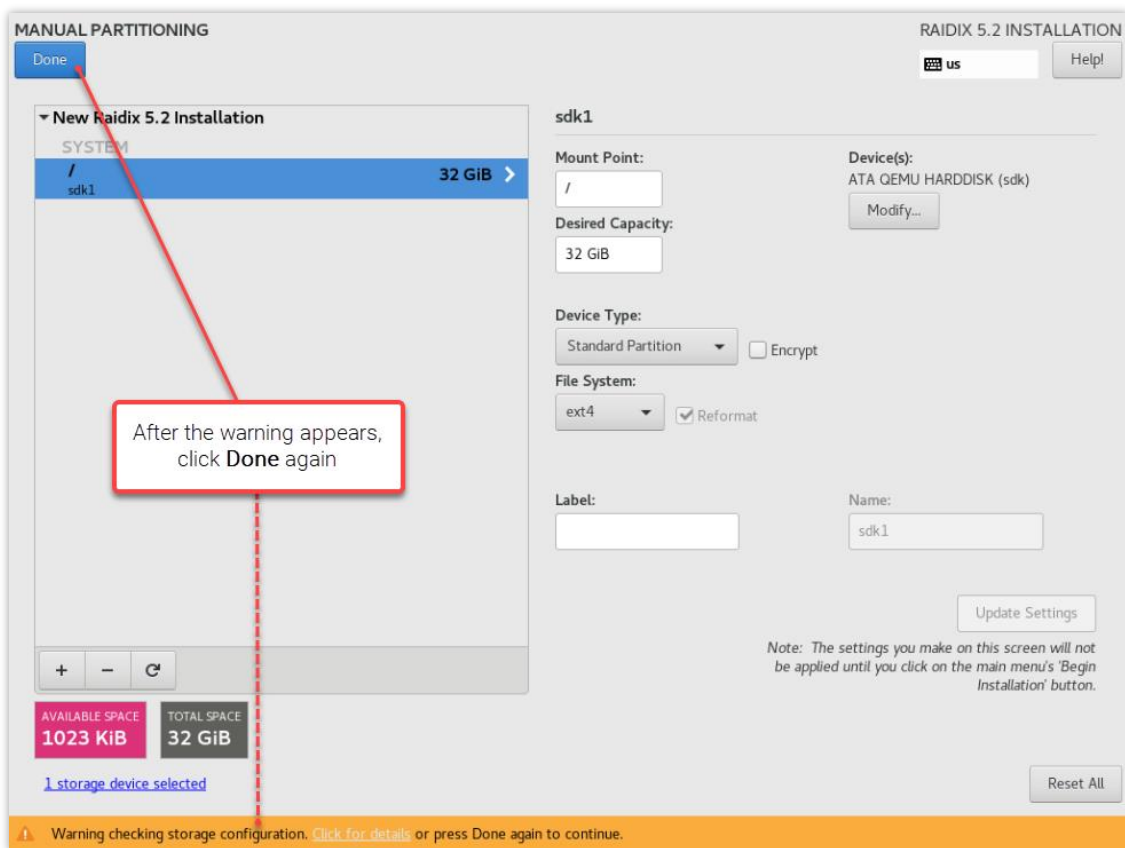

Figure 15. Confirmation of partitioning
- Click **Done**. After the warning message appears, click **Done** again to confirm the partitioning (Figure 15).